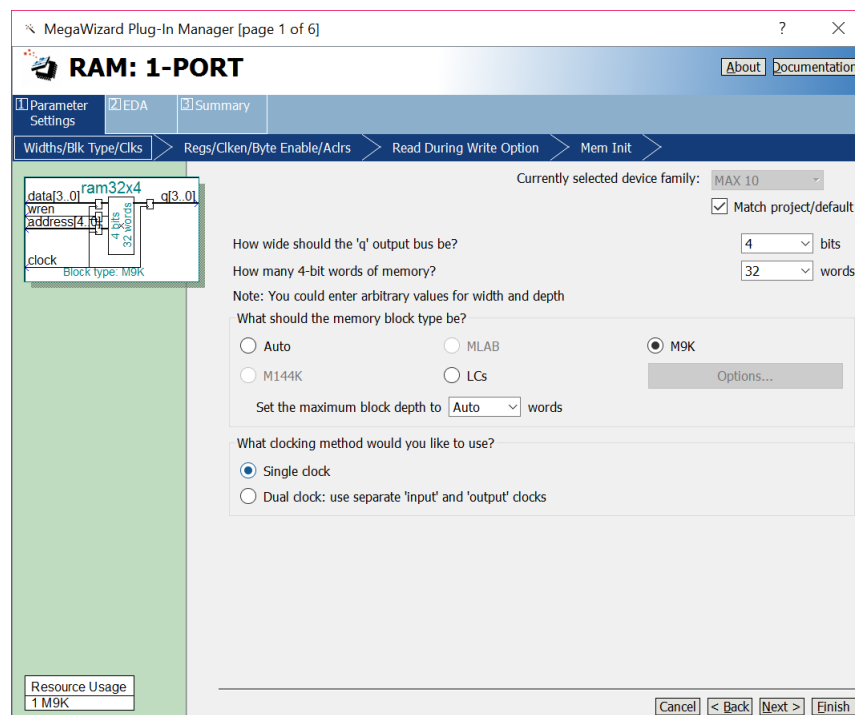
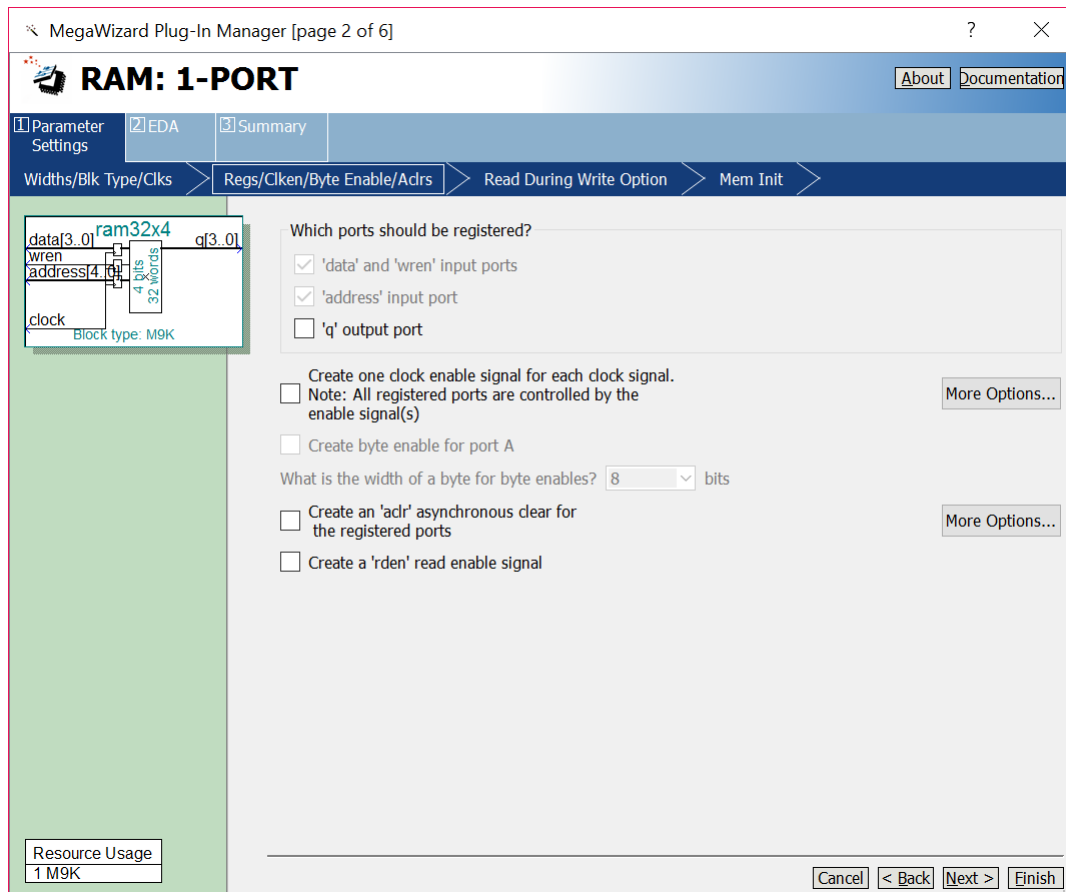

Figure 2: Configuring the size of the memory module.
Figure 3: Configuring input and output ports.
2. To open the IP Catalog in the Quartus software click on Tools > IP Catalog. In the IP Catalog window choose the *RAM: 1-PORT* module, which is found under the Basic Functions > On Chip Memory category. Select Verilog HDL as the type of output file to create, give the file the name *ram32x4.v*, and click OK. As shown in Figure 2 specify a memory size of 32 four-bit words. Select M9K if your DE-series board has a MAX 10 or Cyclone IV FPGA, otherwise select M10K. Also on this screen accept the default setting to use a single clock for the memory's registers, and then advance to the page shown in Figure 3. On this page *deselect* the setting called 'q' output port under the category Which ports should be registered?. This setting creates a RAM module that matches the structure in Figure 1b, with registered input ports and unregistered output ports. Accept defaults for the rest of the settings in the Wizard, and click the Finish button to exit from this tool. Examine the *ram32x4.v* Verilog file which defines the following subcircuit: